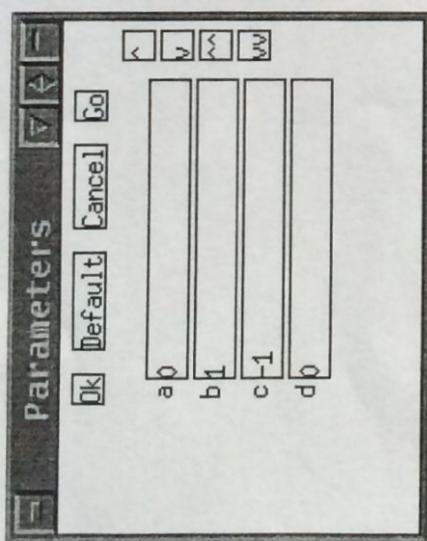

Figure B.6 The parameter window.
- In the **Parameter Window** (shown in Figure B.6) type in values next to the parameter you want to change. Use the scroll buttons or the keyboard to scroll around. As in the **Initial Data Window**, there are four buttons across the top. Click on **Go** to keep the values and run the simulation; click on **Ok** to keep the parameters without running the simulation. Click on **Cancel** to return to the values since you last pressed **Go** or **Ok**. The **Default** button returns the parameters to the values when you started the program.